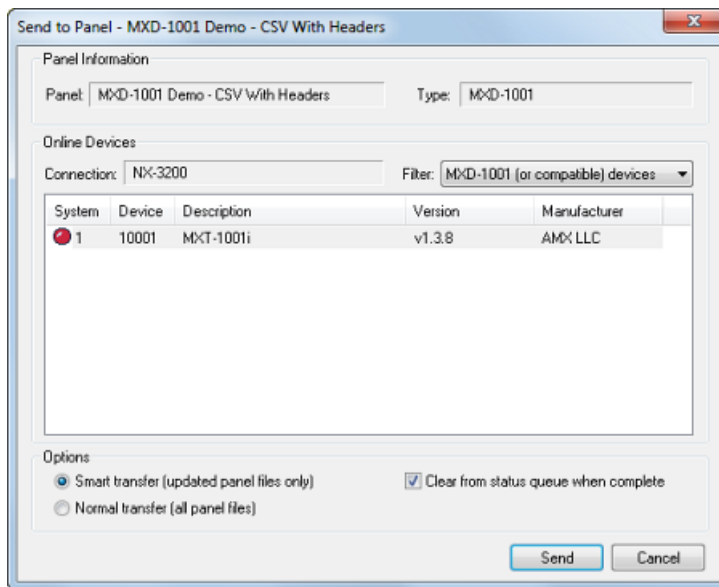

FIG. 152 Send To Panel dialog
2. Select the connection configuration for the target NX Master from the *Connection* drop-down list, and click **Connect**. Once a connection has been established with the Master, select **Transfer > Send to Panel** to open the *Send to Panel* dialog (FIG. 152):